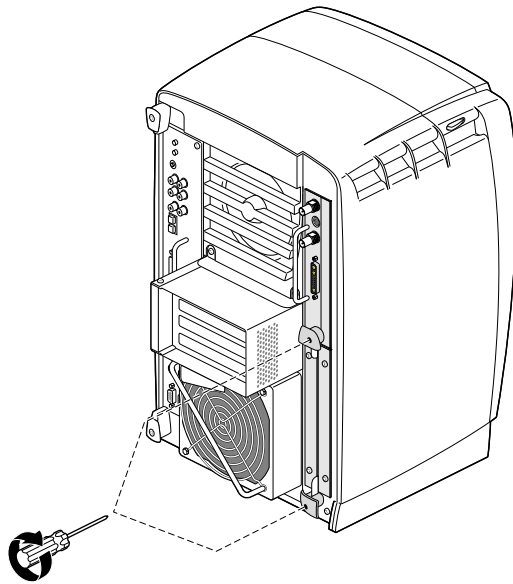

Figure 15 Tightening the XIO Tri-Module Captive Screws
7. Tighten the captive screws in the sliding handles, as shown in Figure 15.